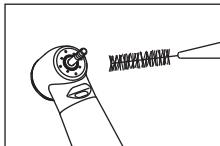

Fig. 22
- 6) If debris still does not come off, use the brush supplied, and clean the holes. (Fig. 22)